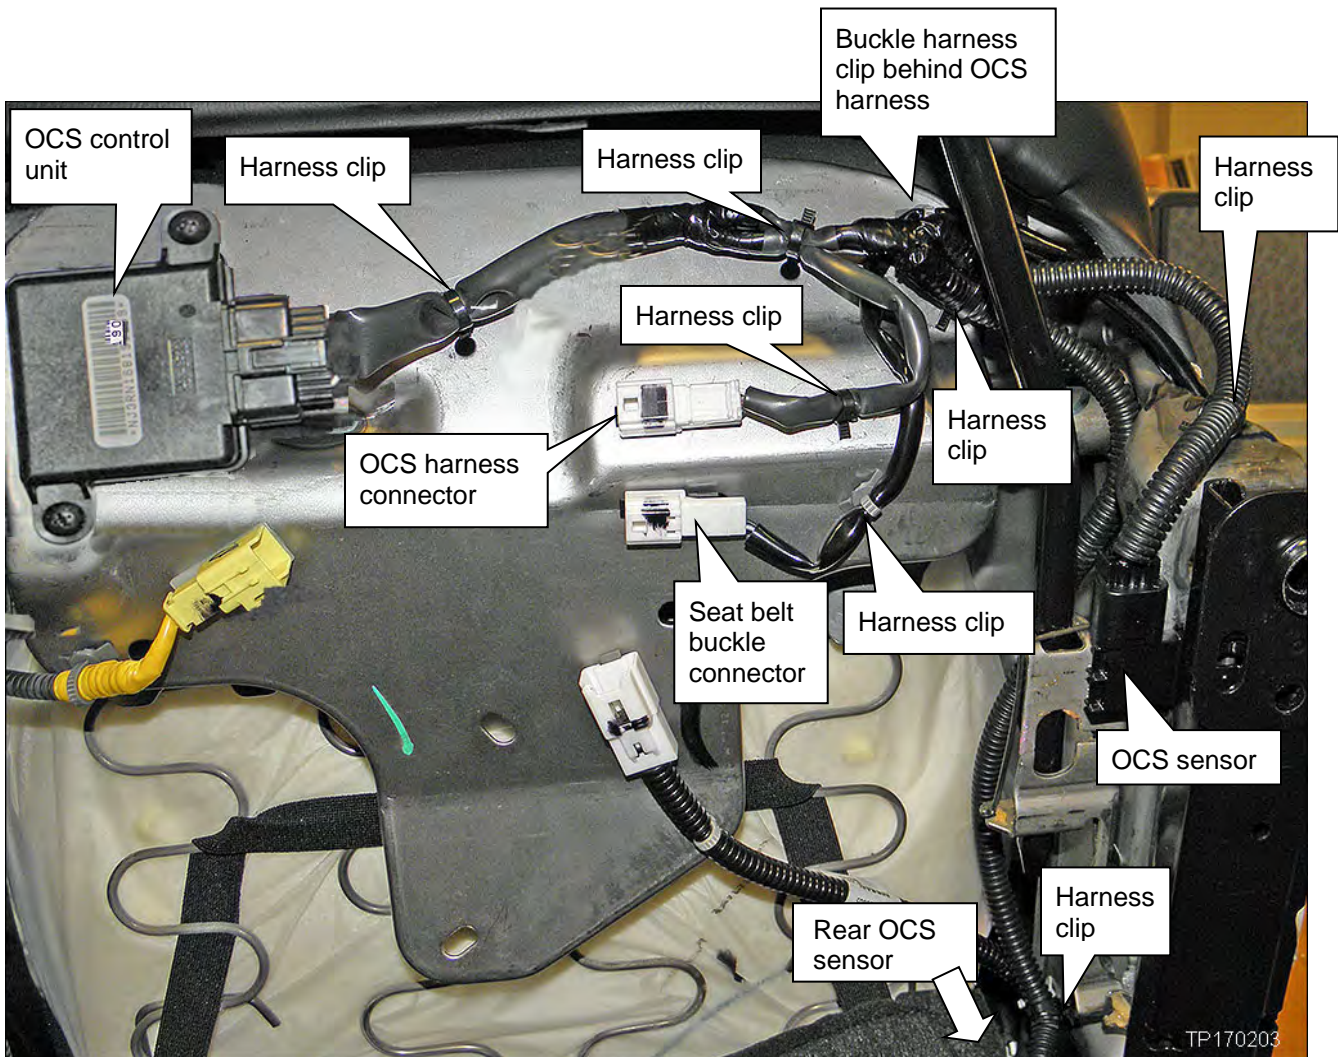
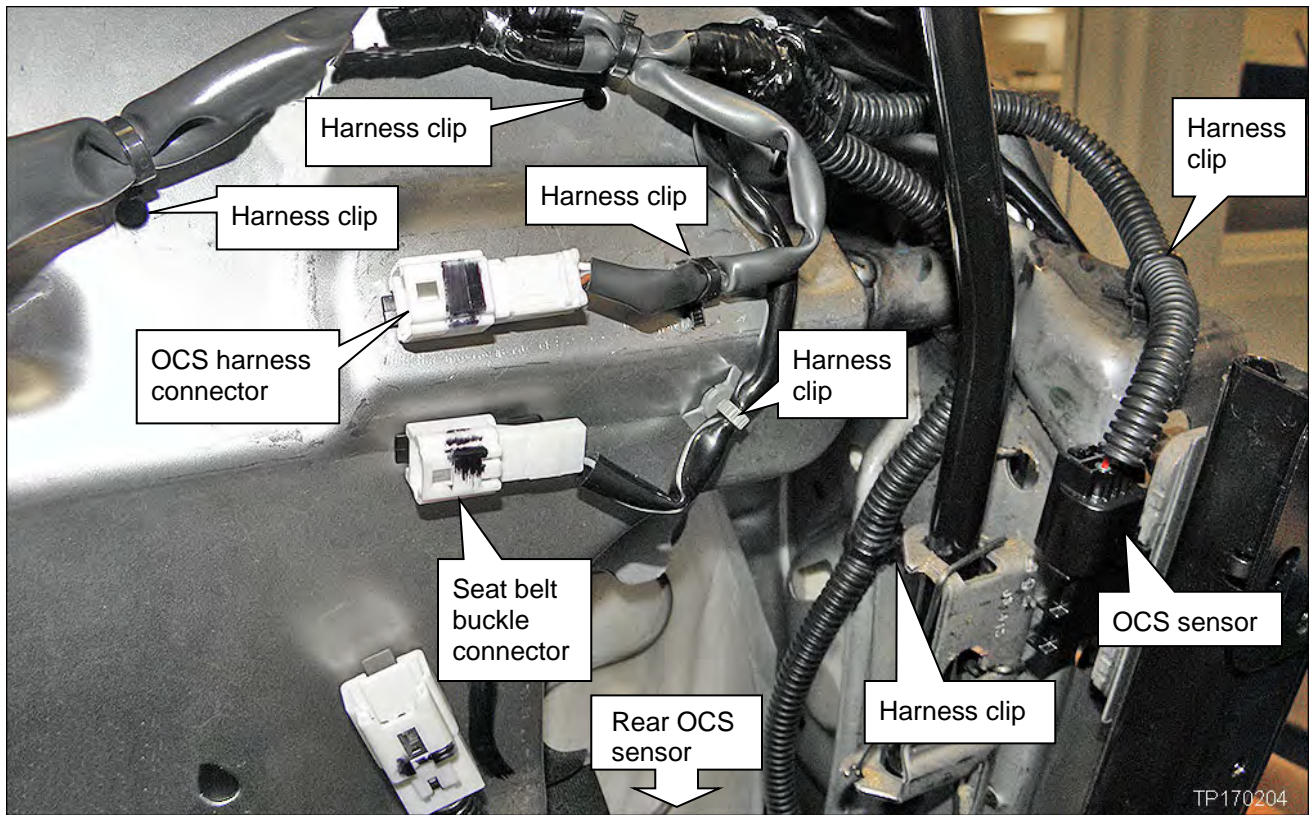

Figure 15
Figure 16
- Refer to Figure 15 below and Figure 16 on the next page for exact harness mounting points.